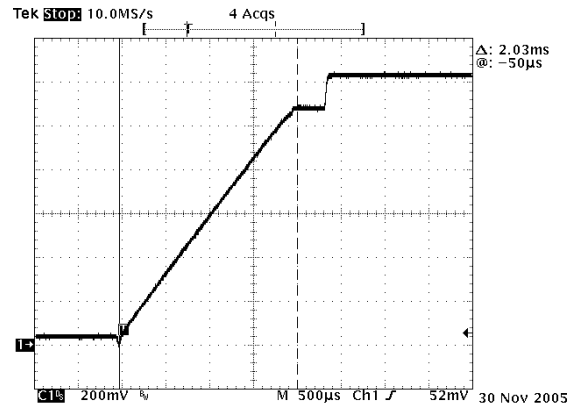

Figure 28. VR11 Startup
The controller supports two different startup routines. An AMD ramp to the initial VID code, or a VR11 Ramp to the 1.1 V VID code, with a pause to capture the VID code then resume ramping to target value based on an internal slew rate limit. See Figures 28 and 29. The controller is designed to regulate to the voltage on the SS pin until it reaches the internal DAC voltage. The soft-start cap sets the initial ramp rate using a typical 5.0 μA current. The typical value to use for the soft-start cap (SS), is typically set to 0.01 μF. This results in a ramp time to 1.1 V of 2.2 ms based on Equation 1.